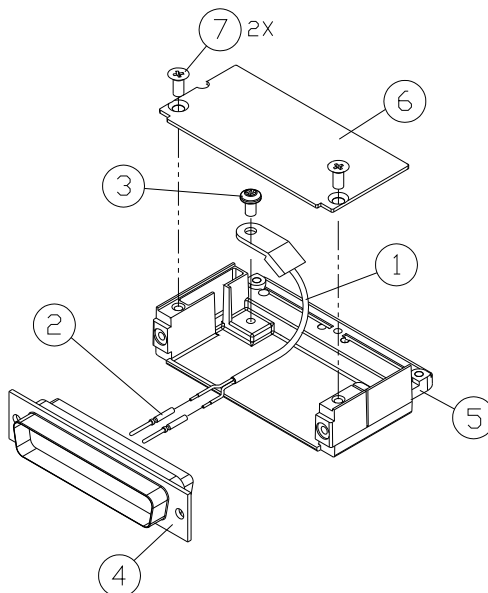

**Figure 6-4. GEA Backshell Thermocouple**
1. Crimp pins, item 2, onto each of the thermocouple wires, item 1. Ensure that pre-stripped wire length is 1/8" prior to crimping.
2. Insert newly crimped pins and wires into the appropriate connector housing location, item 4, as specified by the Diamond wiring diagram.
3. Place thermocouple body, item 1, onto the backshell boss, item 5. Place the thermocouple as shown in Figure 6-4 so that the wires exit towards the bottom of the backshell.
4. Fasten thermocouple tightly to backshell using the provided screw, item 3.
5. Fasten cover, item 6, to backshell using the provided screws, item 7.